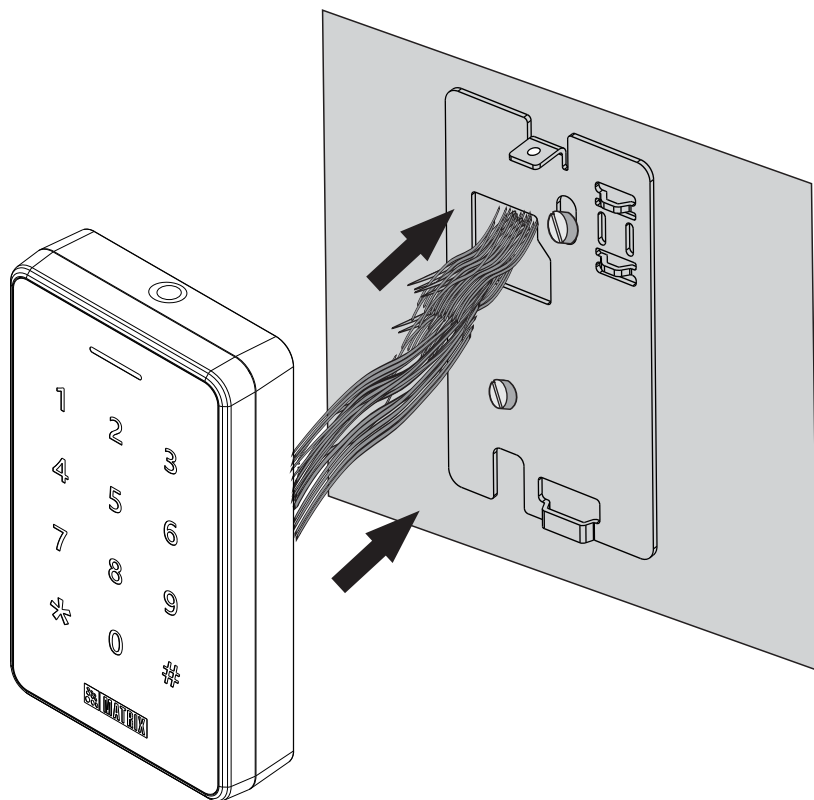

Figure 8
3. Lead the cables from the wall through the drilled area **C** of the Mounting Plate as illustrated in Figure 8. Connect the necessary cables with COSEC ATOM.